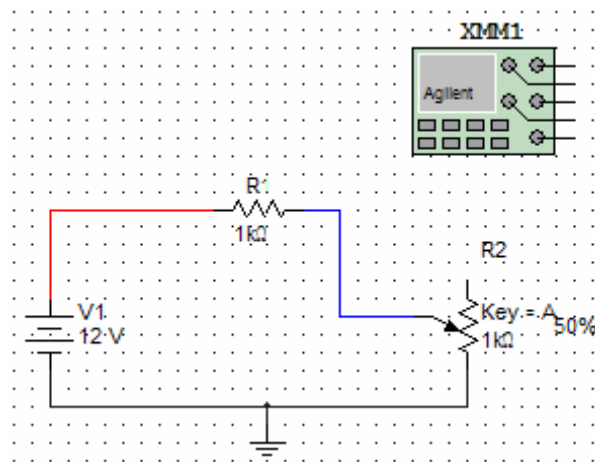

Figure 11. A multimeter placed on to workspace.
**Remark:** To make debugging easier in larger circuits, it would be instructive to change the wire colors. To do so, Left-click on the wire to select it and then Right-click to choose Wire color. Figure 11 shows the result. You should try to stick to electronics wire color conventions. For example: RED for power and BLACK for ground.
10. **Left-click** the Agilent Multimeter from the Instruments Toolbar and drag the multimeter onto your workspace. Figure 11 shows the result.